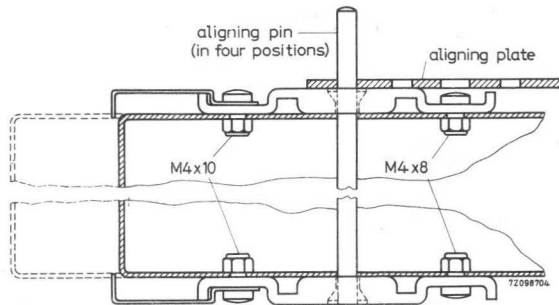

Fig.11. Aligning. (Short-Board Version is represented by dashed lines.)
6. With the chassis in normal horizontal position, insert an aligning pin in the empty countersunk holes and place the aligning plate to fit over the aligning pins (see Fig.11).